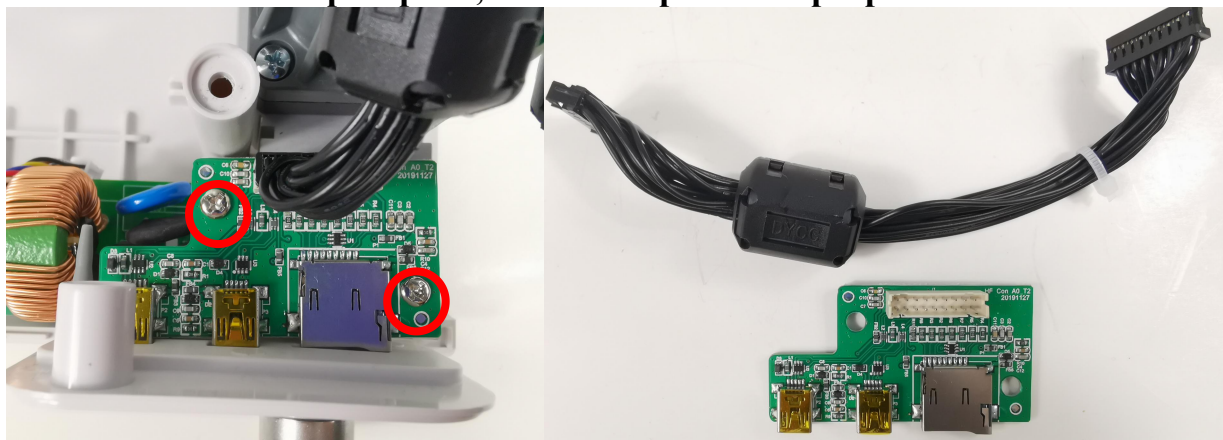

Figure 3-5-1
① Use a Phillips screwdriver to remove the 2 screws in the red circle in Figure 3-5-1. carefully take out the adapter board and unplug the adapter board cable.